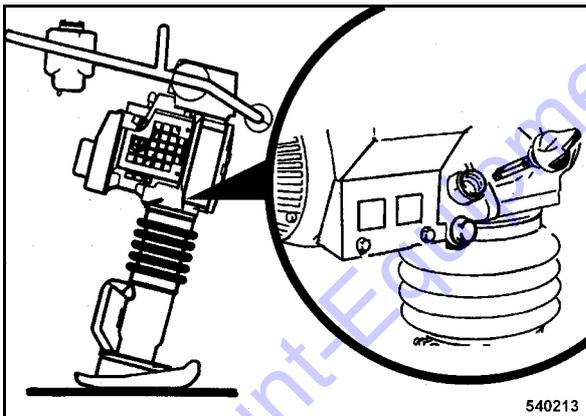

Fig. 36
- Unscrew the oil dipstick (Fig. 36).